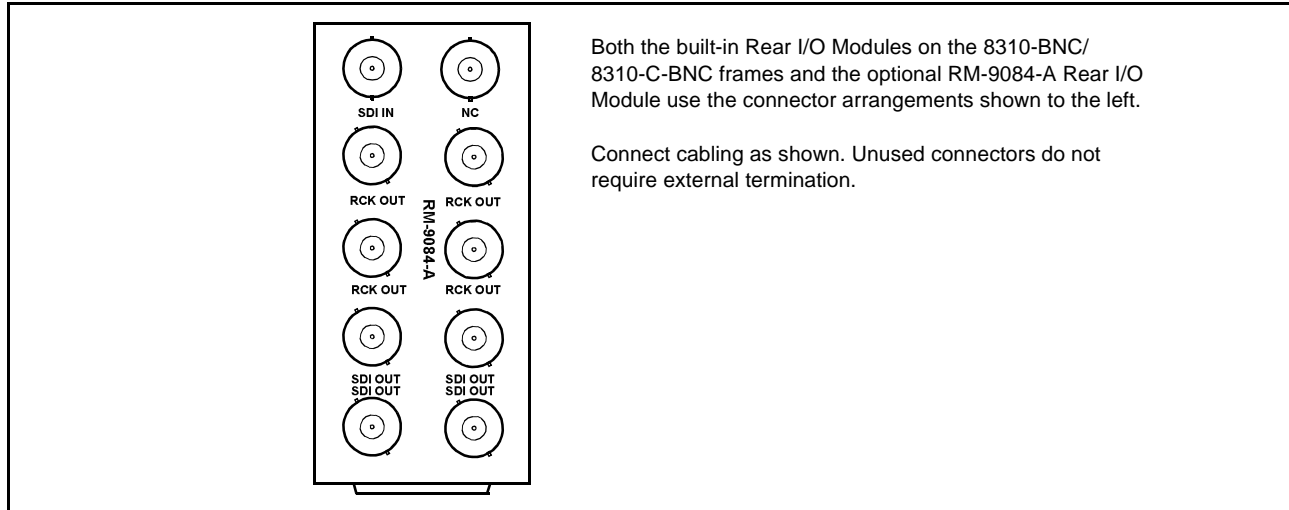

Figure 2-1 9084 Rear I/O Module Connections
8. Connect the input and output cables as shown in Figure 2-1.